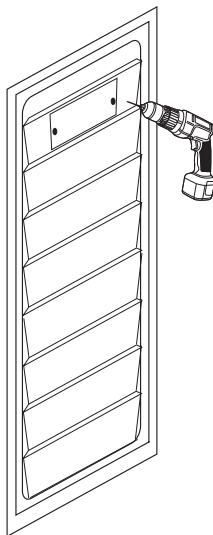

fig.2
2. On the marked hole locations, drill out two holes using dia. 5/32" (4.2mm) drill bit as shown in fig.2. These holes will be used to attach the ventilaion cover with the ventilation cover pins (VCP).